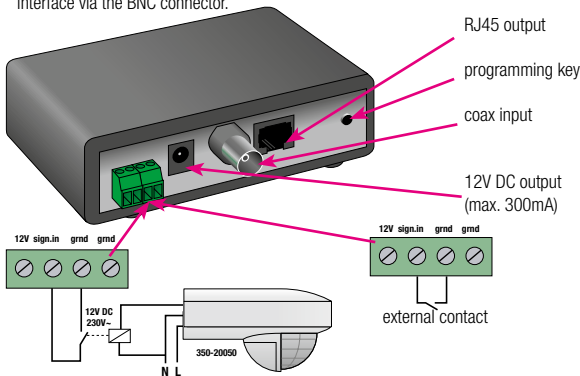

fig.2: connecting the camera interface to the system
If the camera interface is switched on, the external camera is activated and the red LED on the module lights. The image of the external camera is displayed on all programmed internal units. You can also control the camera manually by pressing the programming key (see fig.2). The camera is then activated and the image is displayed on all programmed internal units.
- You can connect a motion detector to the screw connector (fig.2). The camera is then activated if the motion detector detects motion.
- You can also connect a push button to the same screw connector (fig.2).
- You can connect both a push button and a motion detector. Thus, you can activate the camera from inside with a single press on the button and the camera is also automatically activated if the motion detector detects motion (fig.2).